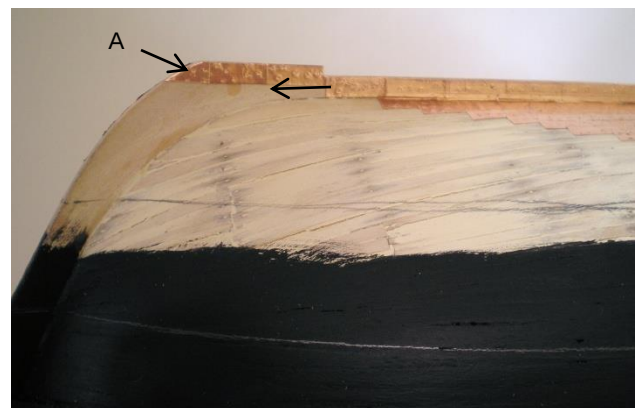

Fig 7d
Continue to run them along the keel until you reach the bow. Set a course of plates (A) to cover the curvature of the keel as it transfers into the stem. Then continue the original course of plates on the keel forward and level to the stem, (arrow). Fig 7d.